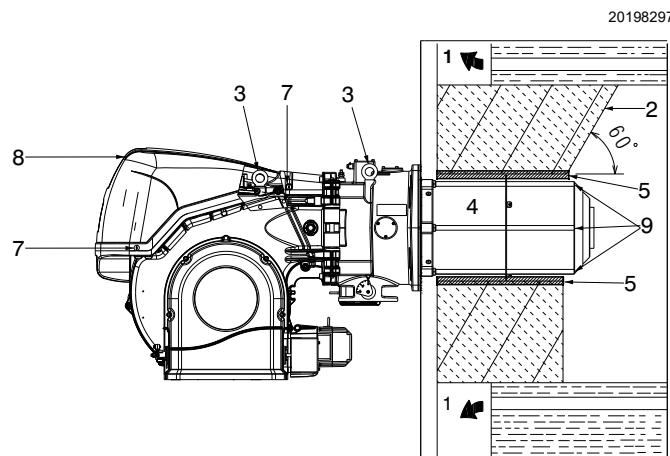

Fig. 15
For boilers with front flue passes 1)(Fig. 15), a protection in refractory material 5) must be inserted between the boiler fettling 2) and the blast tube 4).
For boilers with a water-cooled front piece, a refractory lining 2)-5)(Fig. 15) is not necessary, unless expressly requested by the boiler manufacturer.
Prepare a suitable lifting system using the rings 3)(Fig. 15), after removing the fixing screws 7) of the casing 8).
- Fit the heat insulation supplied onto the blast tube 4)(Fig. 15).
Pay particularly attention to the external gas pipes 9 (Fig. 15) during the burner fixing to the boiler in order to avoid to damage them.